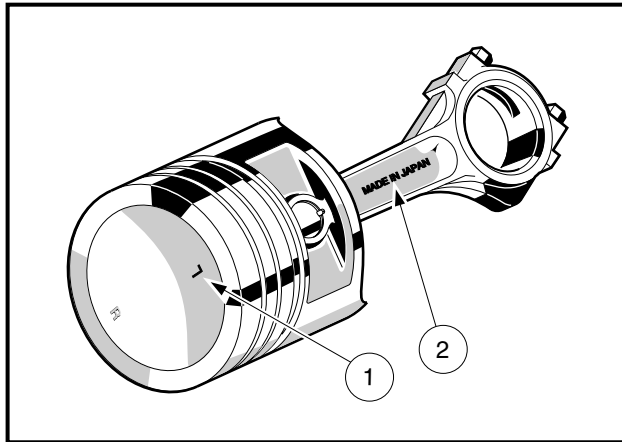

Figure 13-97 Piston/Connecting Rod Alignment
- Reassemble the piston and the connecting rod into a unit, if disassembled. Align the L mark (1) on the piston head toward the lettering MADE IN JAPAN (2) on the connecting rod (**Figure 13-97, Page 13-45**).